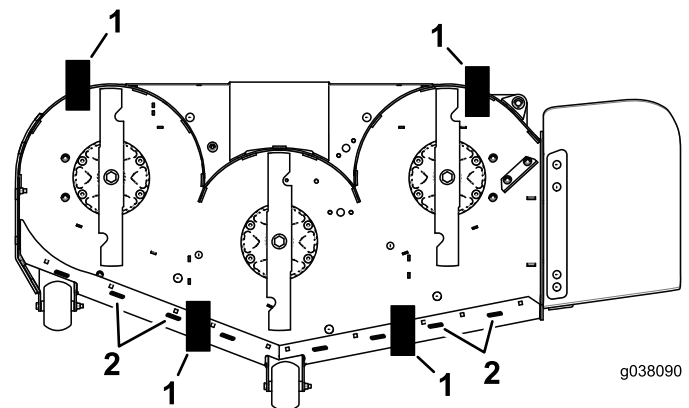

Figure 86
9. Place 2 blocks (see table below) under the rear edge of the cutting deck skirt; 1 on each side of the cutting deck (Figure 86).